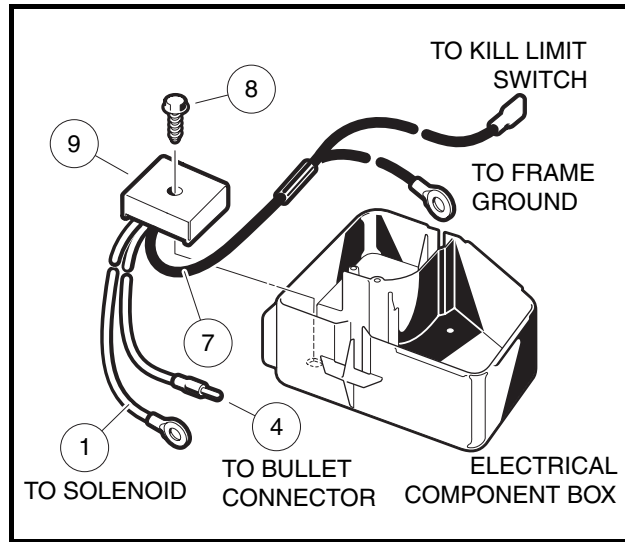

Figure 14-15 Voltage Regulator
3. Disconnect the voltage regulator red wire (1) at the large post on the solenoid, the yellow wire (4) at the bullet connector, and the black wire (7) from the (NO) terminal of the kill limit switch and at the battery frame ground (**Figure 14-15, Page 14-12**).
4. Remove the voltage regulator mounting screw (8) and remove the voltage regulator (9).
1. Position the voltage regulator (9) in the electrical component box and install the mounting screw (8) (Figure 14-15, Page 14-12). Tighten screw to 23 in-lb (2.6 N·m).
2. Connect the voltage regulator red wire (1) at the large post on the solenoid, the yellow wire (4) at the bullet connector, and the black wire (7) at the battery frame ground (Figure 14-15, Page 14-12).